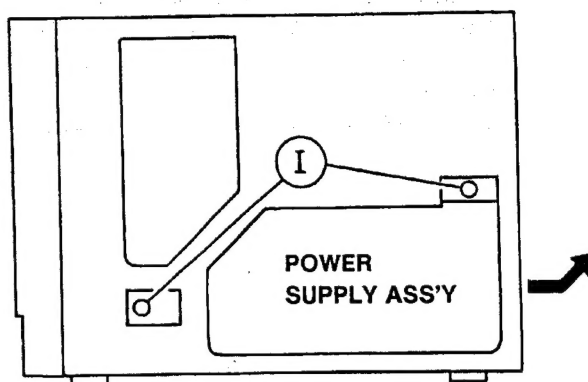

Fig. 8
- (1) Remove the 2 screws ① shown in Fig. 8.
- (2) Slight lift up the AC input side of the POWER SUPPLY ASSEMBLY and slide it in the direction of the arrow to remove it.